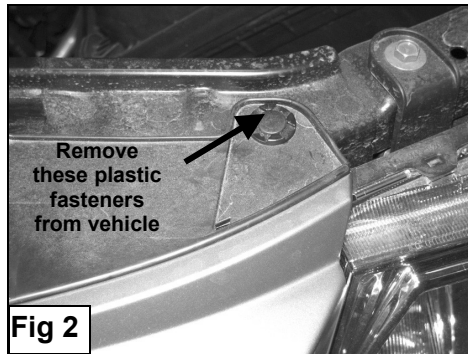

Fig 2
4. Open the hood and remove the four plastic fasteners across the top of the grille shell (**Figure 2**).